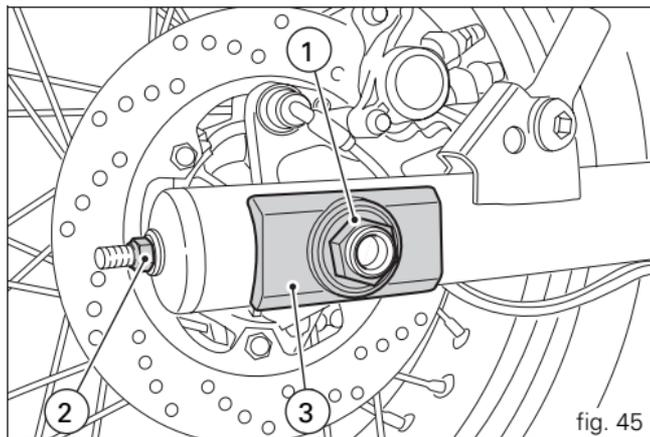

fig. 45
To adjust the tension, loosen the axle nut (1, fig. 45) and screw in the adjuster screws (2) on both sides of the swingarm by the same amount to tighten the chain or unscrew them to slacken it. In the latter case, you will need to push the wheel forward.
Check that the notches in the sliders (3, fig. 45) on both sides of the swingarm are lined up with the same positioning marks (A) to ensure that the wheel is aligned correctly. Grease the thread of the axle nut (1, fig. 45) with SHELL Retinax HDX2 and tighten to a torque of 72 Nm. Grease the threads of the adjuster nuts (2, fig. 46) with SHELL Alvania R3 and tighten to a torque of 8 Nm.